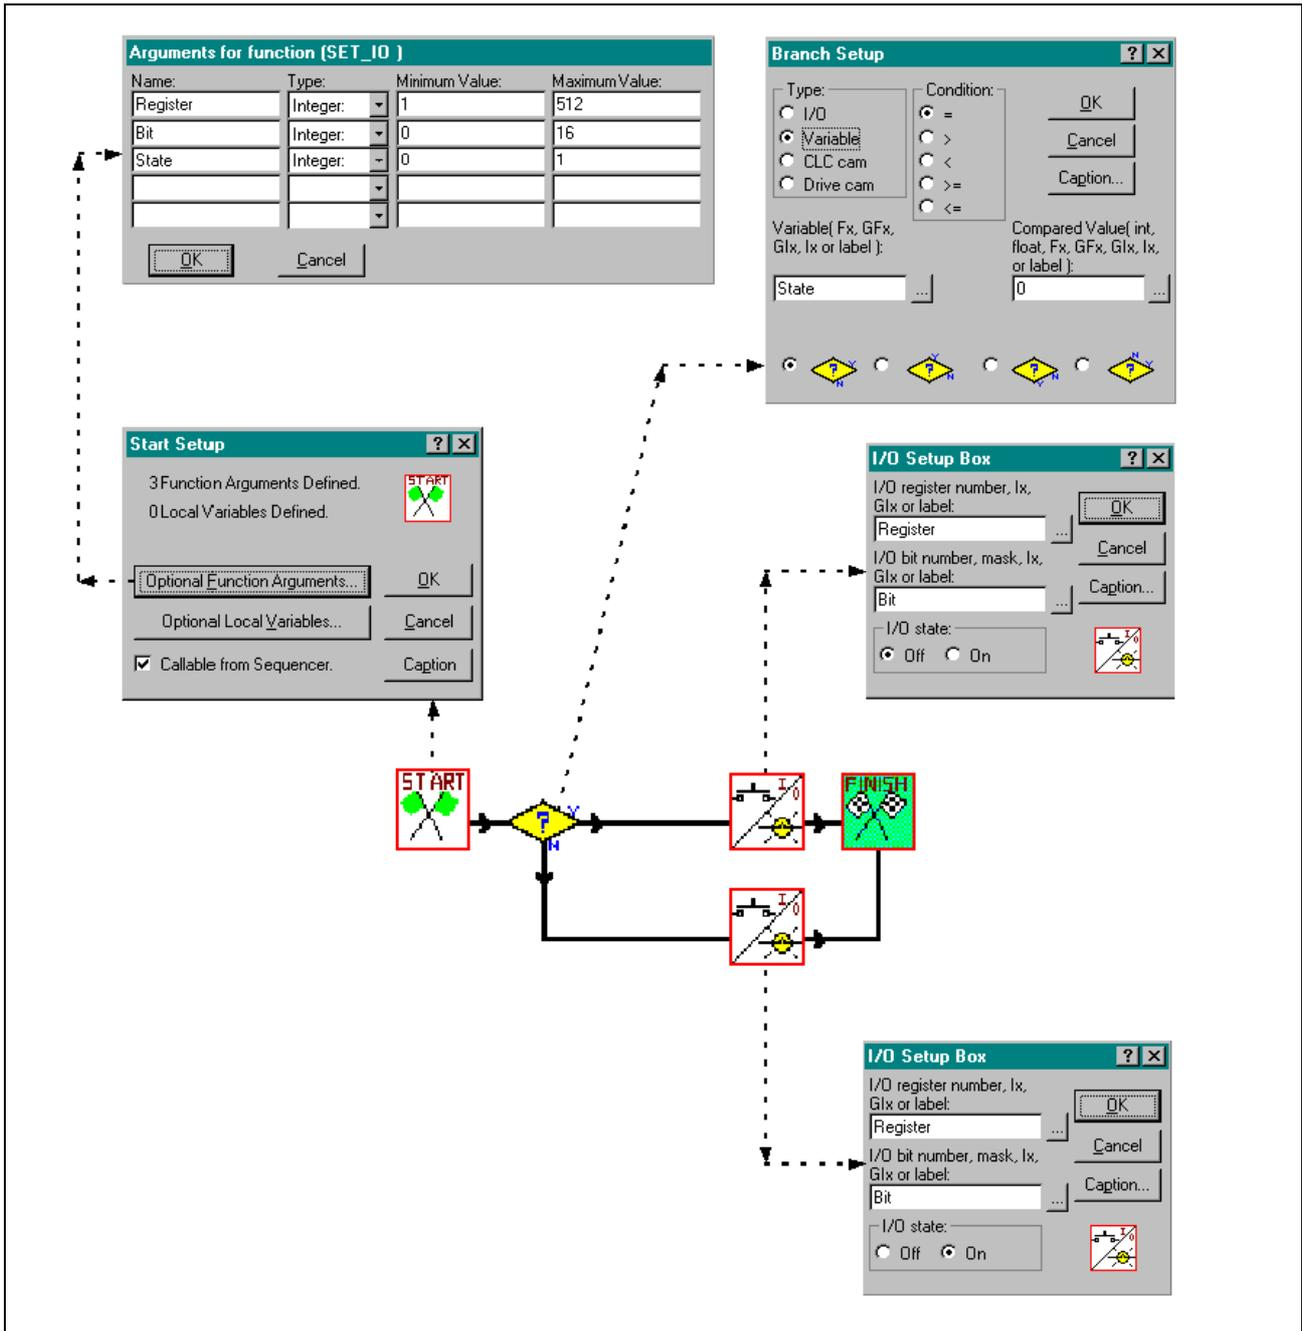

Figure D-3: SET_IO subroutine
3. Create the subroutine illustrated below according to the selections and values given in their corresponding dialog boxes. Refer to Program Layout - Function / Subroutine - SET_IO, Figure D-3.